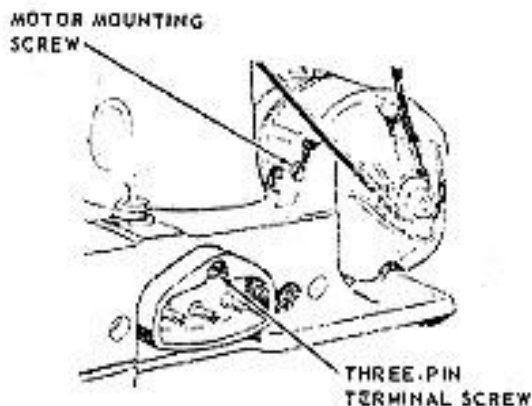

Fig. 50. Removing Motor
2. Loosen motor mounting screw, Fig. 50, and remove motor belt.
3. Remove three-pin terminal fastening screw, Fig. 50.
6. Remove motor mounting screw, Fig. 50, and remove motor, drawing motor leads out through opening in machine frame.
5. Remove motor mounting screw, Fig. 50, and remove motor, drawing motor leads out through opening in machine frame.